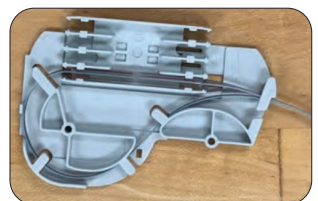

Figure 12
13. Utilizing the spool fiber retainers, route pigtail fibers counterclockwise until feeder and pigtail fibers converge.. **(Figure 12)**